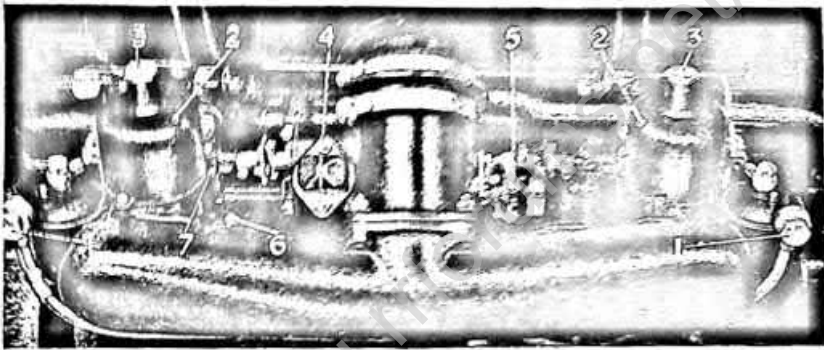
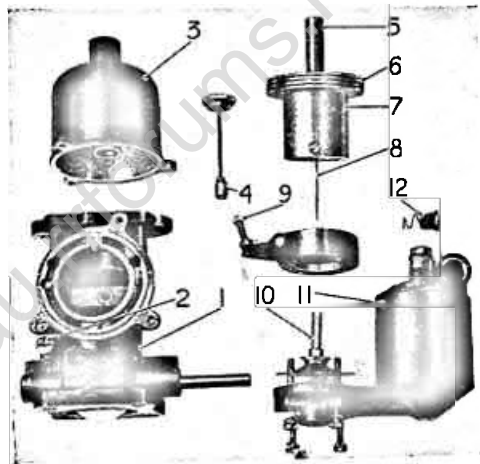

Fig. 12.—CARBURETTORS ON ENGINE.
Fig. 13.—CARBURETTER DISMANTLED.
To remove the filters from the carburetter inlets, unscrew the two union nuts (1, Fig. 12). The filter gauzes can then be removed and cleaned in petrol.
Two carburettors of the S.A. MacIntyre type are fitted as shown in Fig. 12. One is shown in section (Fig. 13) to illustrate the principal parts:
Every month, the oil reservoir cap nut (3, Fig. 12) should be unscrewed and the plunger withdrawn, great care being taken to avoid damage to the plunger rod by bending; the reservoir should be topped up, if required, with the recommended oil, so as to maintain the level of the oil to the top of the guide rod only. The plunger should then be replaced, taking care that no dirt or grit is present. A slight steady pressure may be required to displace the oil sufficiently to allow the engagement of the thread of the oil reservoir cap nut.
The suction disc (6, Fig. 13) does not touch the walls of the valve chamber, there being a small clearance, and it is centralised solely by the piston rod working in the guide. Therefore any sluggishness in movement is probably due to dirt in the guide, or on the valve chamber walls.
1. The strength or quality of the mixture for slow running is set by means of an adjustable screw, one on each carburetter (9, Fig. 13) on the side of the main body.
2. The quantity of mixture for slow running is determined by means of an adjustable screw, one on each carburetter (2, Fig. 13), which varies the restriction in a separate by-pass passage across the throttle.